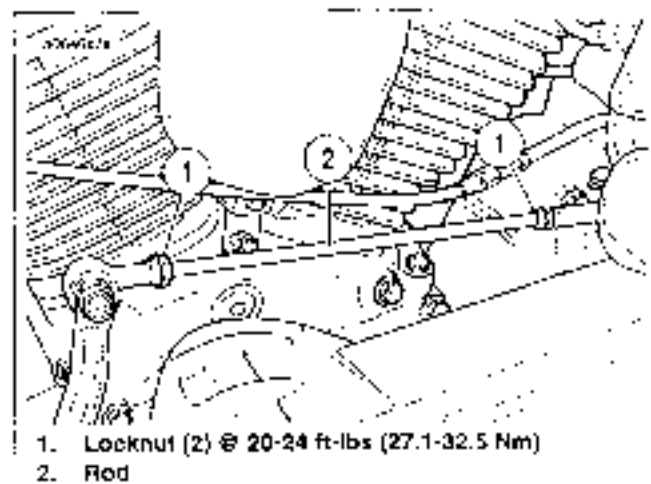

Figure 7-2. Shifter Rod
1. See Figure 7-2. Disconnect one end of shifter rod.
2. Loosen locknuts (1). Adjust rod (2) as necessary and connect loose end of shifter rod.
5. See Figure 7-2. If neutral switch was removed, it must be installed in the top cover with the transmission shifter in the NEUTRAL position to properly engage a plunger on shifter cam. See 6.00 NEUTRAL SWITCH.
6. Connect vent hose (4) to vent hose fitting (5).